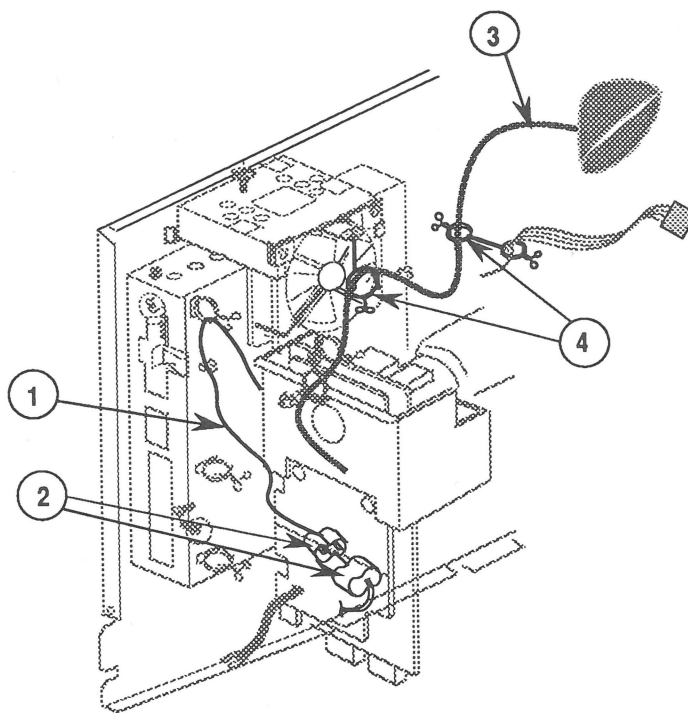

FIGURE 42
5. Reconnect the fan cable (Figure 42, #1) at the fan connectors (Figure 42, #2).
6. Swing in the right chassis panel, and replace the anode cable (Figure 42, #3) in the two cable clamps (Figure 42, #4).